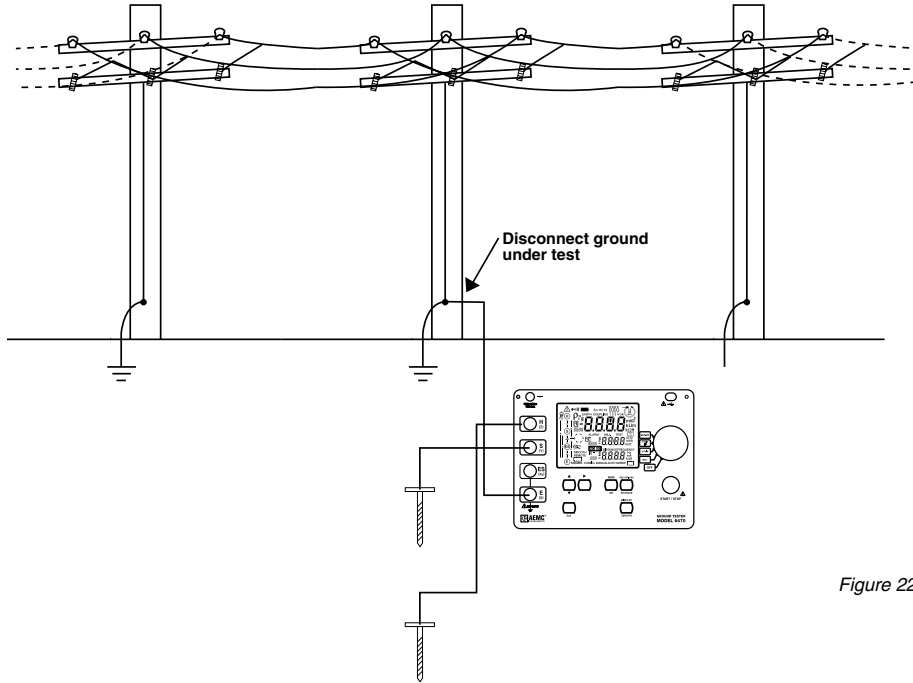

Figure 22
B) If the previous method fails, try changing the alignment of the auxiliary cables so that they are not parallel to power lines above or below the ground. (Figure 22)